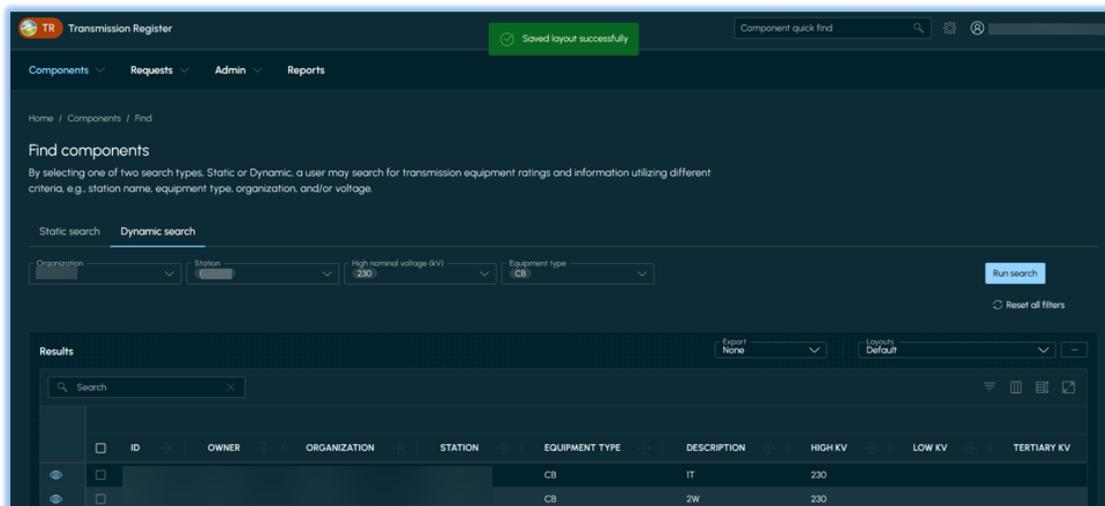

Figure 20 Dynamic Search Results
- 1) Select the Organization name from the dropdown window shown in Figure 20. When a user selects Organization, the Station populates with only stations that have active components for the organization.